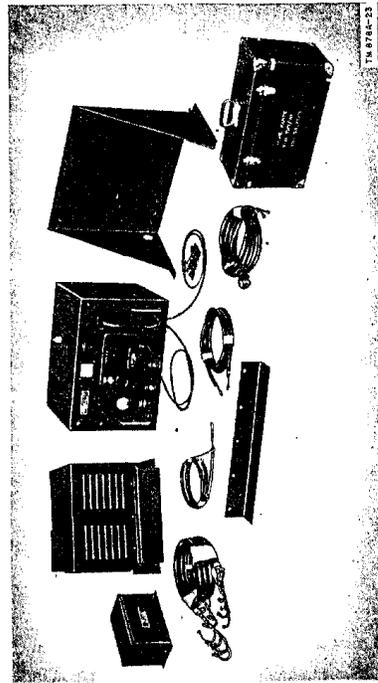

Figure 15. Components of Radio Transmitter T-83/SR.
- d. When lubricants are to be applied, use solvent (SD) to clean thoroughly the point to be lubricated and all other parts affected; dry with a lint-free cloth.
a. Radio Transmitter T-83/SR is a 50-watt telephone and telegraph marine radio transmitter. Either c-w or phone transmission is available on any of five preset channels in the frequency range between 1,700 and 8,700 kc. Three separate units house the entire transmitter installation (fig. 15). Provisions are made for remote control operation of the radio transmitter.